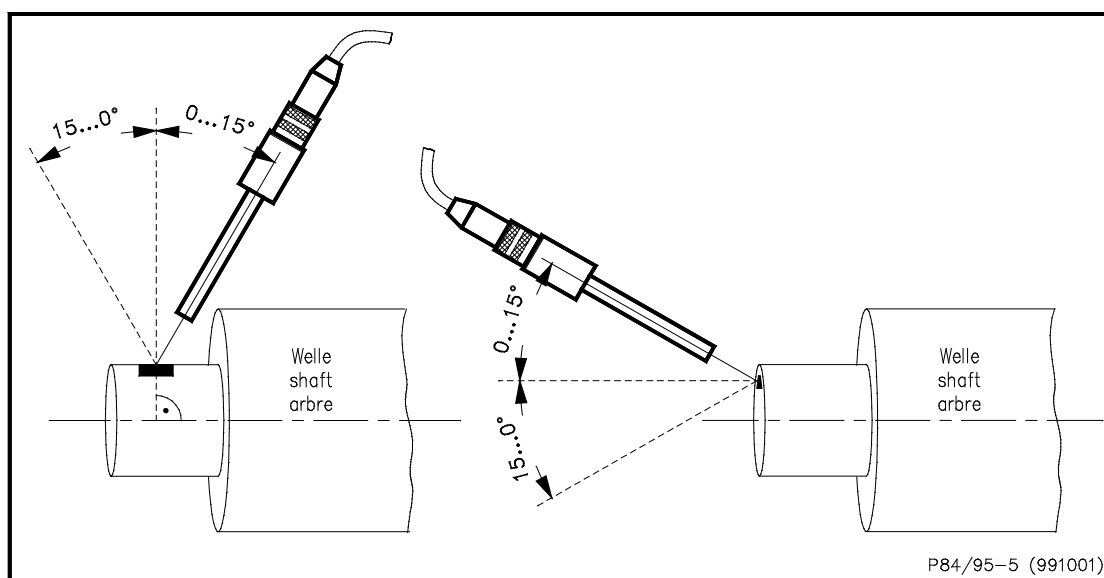

Fig. 8 Optimum installation angle of the reference pickup
- The optimum angle of the reference pickup vertical to the axis of shaft rotation should be **0 ... 15°** (see Figure 8). Right-angled installation might lead to scattering of the reflected light; the reflected signal level will be too low at angles above 30°.